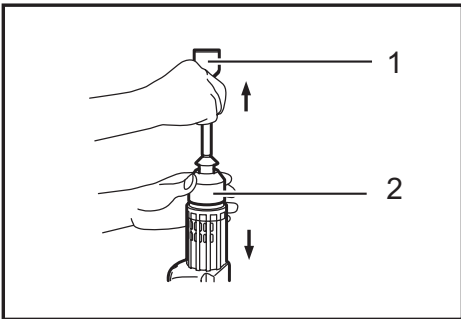

Fig.4
► Fig.4: 1. Bit 2. Chuck cover